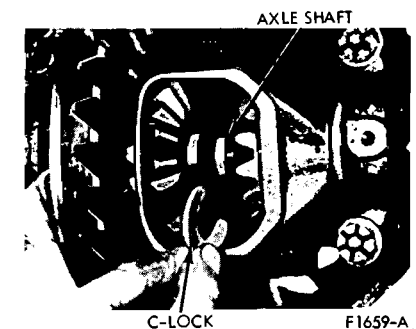

FIG. 6 Removal and Installation of C-Locks and Axle Shaft
8. Push the axle shaft(s) inward toward the center of the axle housing. Remove the C-lock(s) (Fig. 6) from the inner end of the axle(s). Remove the axle shaft(s) from the housing. Extreme care must be used to avoid contact of the axle shaft seal lip with any portion of the axle shaft except the seal journal.
7. Install the axle shaft C-lock(s) on the inner end of the shaft(s) (Fig. 6) and push the shaft(s) outward so that the shaft locks seat in the counterbore(s) of the differential side gear(s).